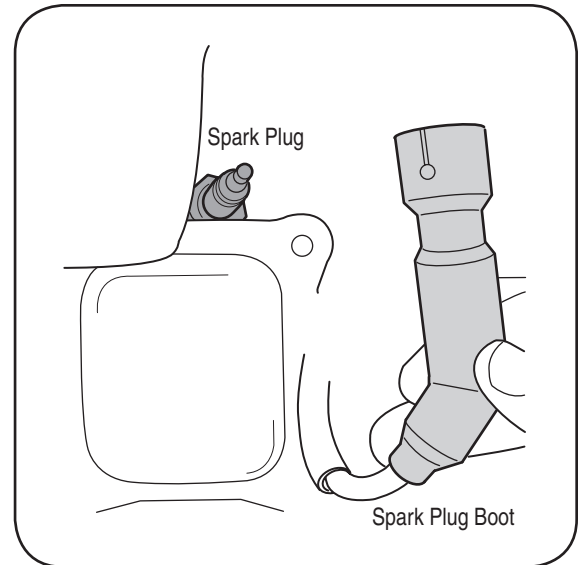

Figure 3-2: The spark plug and boot.
1. Remove the spark plug boot and use a spark plug wrench to remove the plug, Figure 3-2.